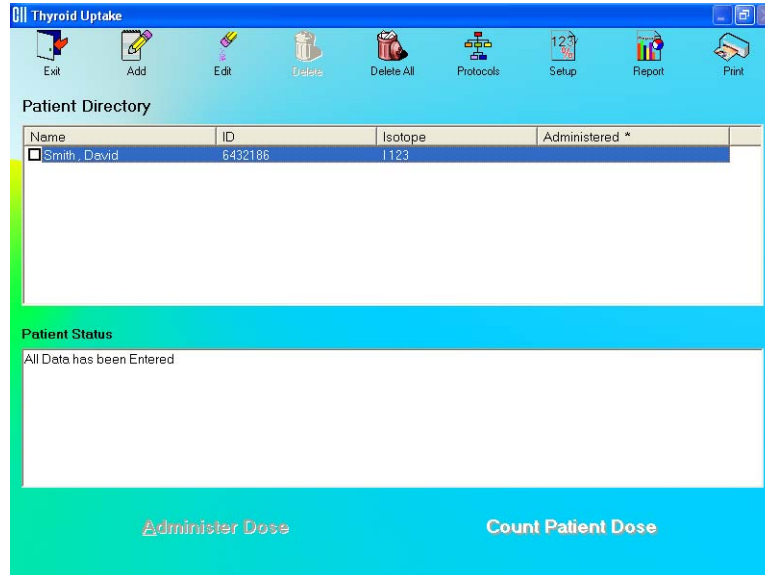

Figure 7-1 Main Thyroid Uptake Screen
To access the Thyroid Uptake functions, click the **Thyroid Uptake** button or press *Alt+U* on the CAPTUS 3000 Main screen. Figure 7-1 Main Thyroid Uptake Screen will appear. The **Patient Directory** box will be empty if there are no existing patients in the database. This box will display the patient's name, ID, administered isotope (if known) and the time and date of dose administration (if already done). By default, patients are sorted by their dose administration time, latest one first. The **Patient Status** box below the **Patient Directory** box shows the current status of the selected patient. If the uptake procedure has been started, the updated results will be displayed here.
To return to the CAPTUS 3000 Main screen from Figure 7-1 Main Thyroid Uptake Screen,
**Note:** *At least one measurement protocol must be set up before any patient can be added to the **Patient Directory** or any other function can be accessed from Figure 7-1 Main Thyroid Uptake Screen.*
11. To stop adding protocols, click the  button to return to Figure 7-1 Main Thyroid Uptake Screen.
- To return to Figure 7-1 Main Thyroid Uptake Screen from the Protocols screen, click the  icon or press the *Esc* key.